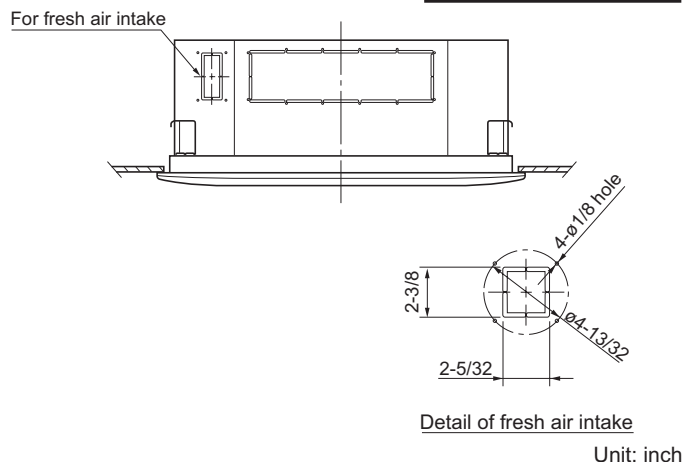

Fig. 1-27
- There is a duct connection part on side of the indoor unit. (Fig. 1-27)